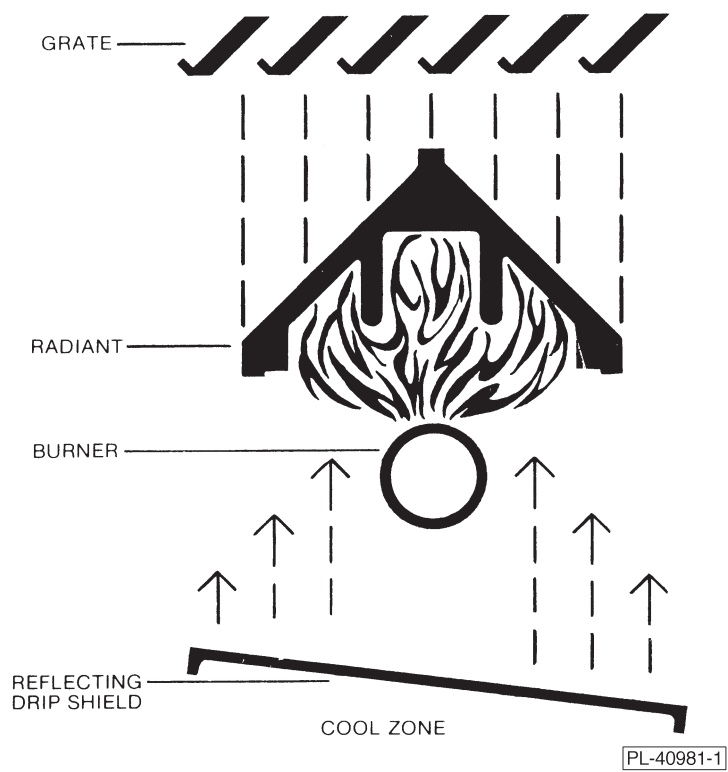

Fig. 1
Place the radiants in their position (Fig. 1). Make sure that radiants nestle properly on front and rear supports. **CAUTION: Do not drop radiants on supports.**
7. Once a week, after completing steps 1-6, remove the radiants. Using a brush, clean reflecting drip shield (see Fig. 1) of any dust or debris.